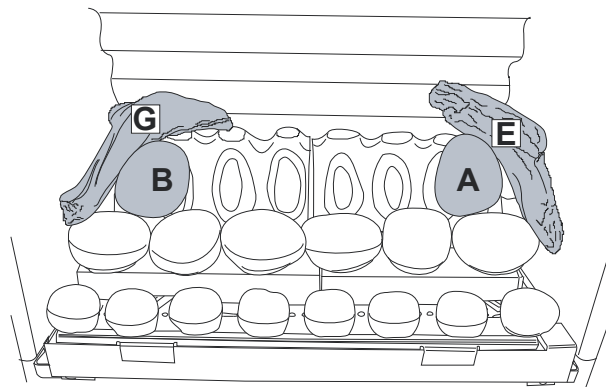

Figure 35
5. Place the **G** and **E** driftwood pieces as shown in **Figure 35** then place the **B** and **A** pebbles (**G** driftwood is not marked).